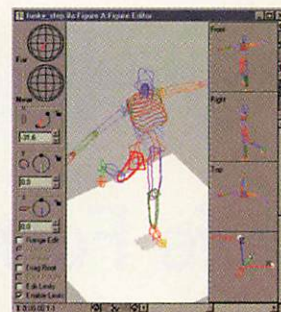

FIGURE 2. All character posing is done in the Figure Editor window. Here you can see many of the tools available for creating poses.
current orientation is displayed in one of the hemispheres, near if the joint is facing toward the camera and far if it's facing away. You can adjust any of these rotation controls or click and drag directly on the joint, which updates the relevant values in real time as you drag. Life Forms also offers a coord-sys (the little Cartesian coordinate system icon found in many 3D modeling and animation programs) style representation of the joint axis in the lower right corner of the user interface, which updates as well (Figure 2). In addition, Life Forms offers clearly defined and easily edited joint rotation limits. When they're enabled, the joint rotation limits affect forward kinematics as well as inverse kinematics (IK).